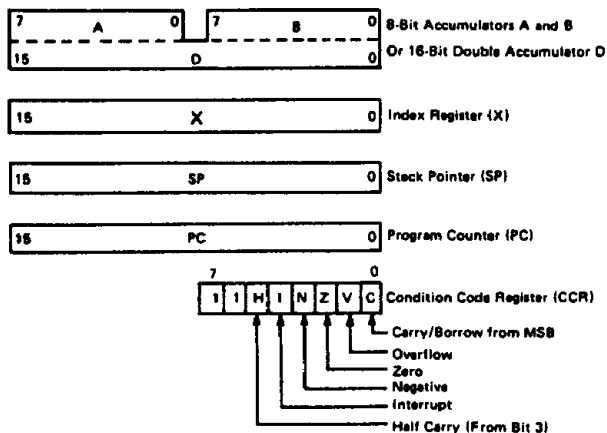

Figure 23 CPU Programming Model
- \* CPU programming model (See Fig. 23)
The programming model for the HD63701V0 is shown in Figure 23. The double accumulator is physically the same as the accumulator A concatenated with the accumulator B, so that the contents of